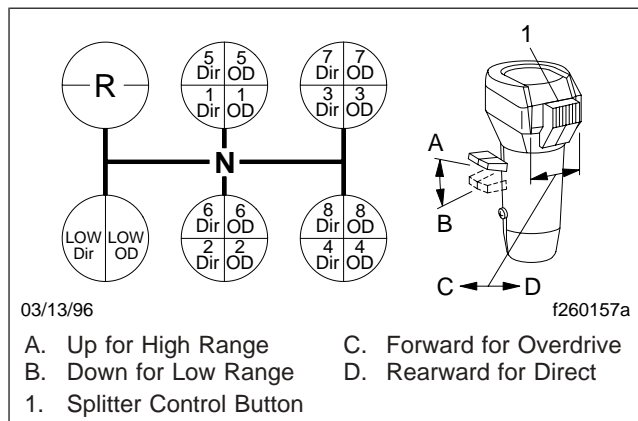

Fig. 8.5, Eaton Fuller 18-Speed RTLO Model Transmission Shift Patterns
- Position the range preselection lever down, into low range. See Fig. 8.4 or Fig. 8.5.
- Make sure the splitter control button is in the direct (rearward) position. See Fig. 8.4 or Fig. 8.5.
To shift from low direct to low overdrive, move the splitter control button (Fig. 8.5) into the overdrive (forward) position, then immediately release the accelerator. Press and release the clutch
Shift upward from low overdrive to 1st direct by first moving the splitter control button into the direct (rearward) position (Fig. 8.5). Move the shift lever, double-clutching, to the 1st gear position.
To shift from 5th direct to 5th overdrive, move the splitter control button (Fig. 8.5) into the overdrive (forward) position, then immediately release the accelerator. Press and release the clutch pedal. After releasing the clutch, accelerate again.